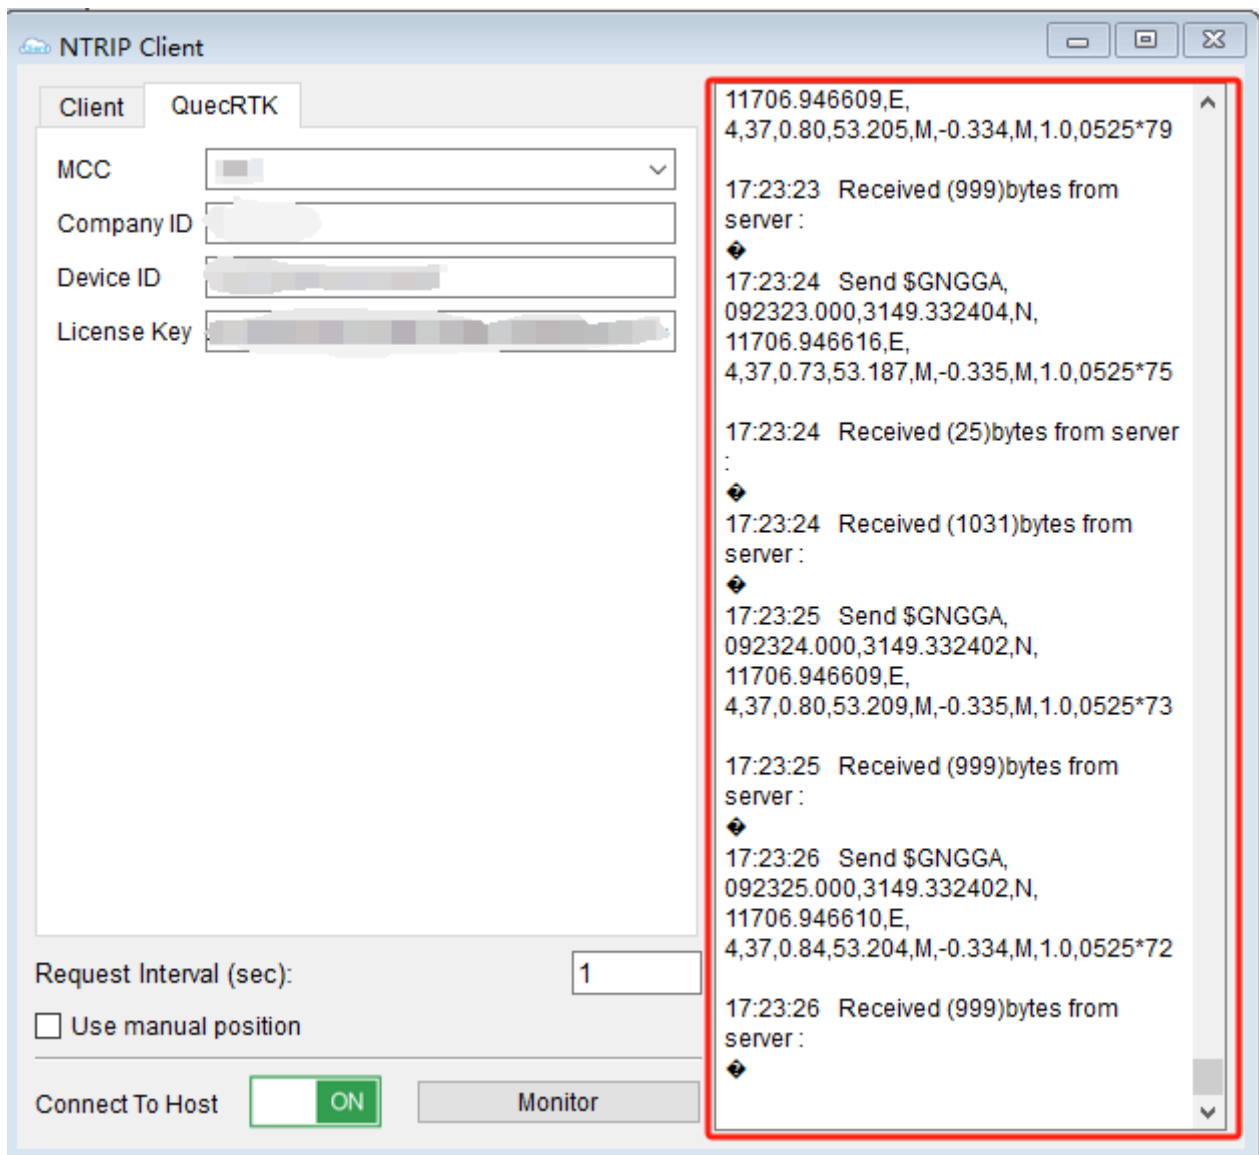

Figure 29: QuecRTK Client
Step 4: Switch ON the “**Connect to Host**”. If the configuration is correct, you can see the messages sent to the RTK server and differential data received in the box on the right as shown in Figure 29: QuecRTK Client